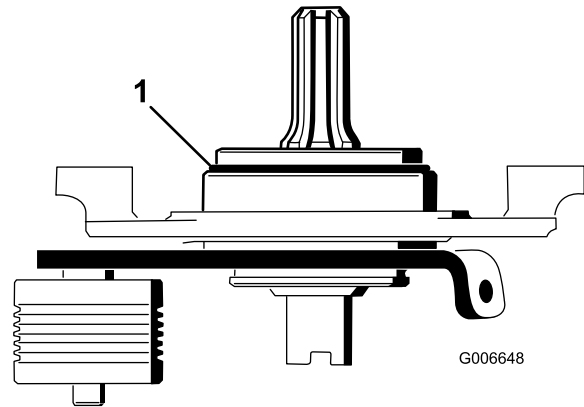

Figure 23
22. Using a 3/8-16 tap, remove the paint in the outer mounting holes in both the left and right side plates (Figure 23).
Important: Make sure the O-ring is properly positioned on the pivot hub (Figure 23).